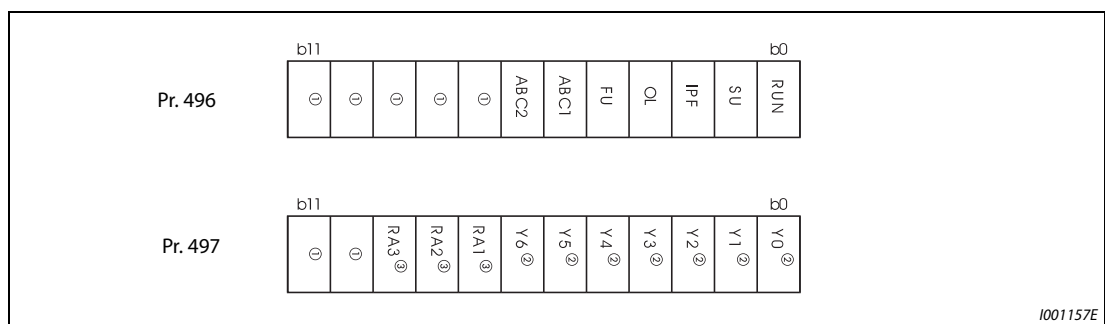

Fig. 5-104: Remote output data
- Refer to the fig. 5-104, and set "1" in the terminal bit (terminal with the REM signal assigned) of Pr. 496 or Pr. 497 to turn ON the output terminal (OFF when using negative logic). Set "0" to turn OFF the output terminal (ON when using negative logic).